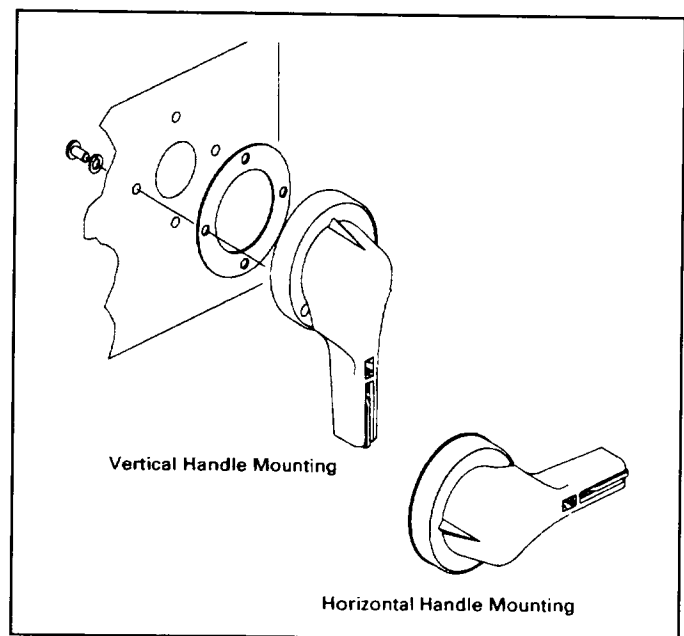

Fig. 3-3 New Handle on Door
6. For vertical or horizontal handle mounting orientation, see Fig. 3-3.